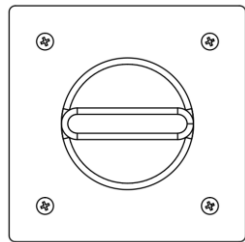
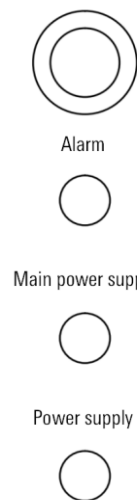

Figure 5-6 Control cabinet circuit breaker handle
Figure 5-7 Control cabinet indicator light
- Step2. After power is supplied, turn the handle of the circuit breaker (see Figure 5-6) and start the control cabinet. After starting, the "main power" indicator light (see Figure 5-7) on the control cabinet turns on and the teach pendant starts.